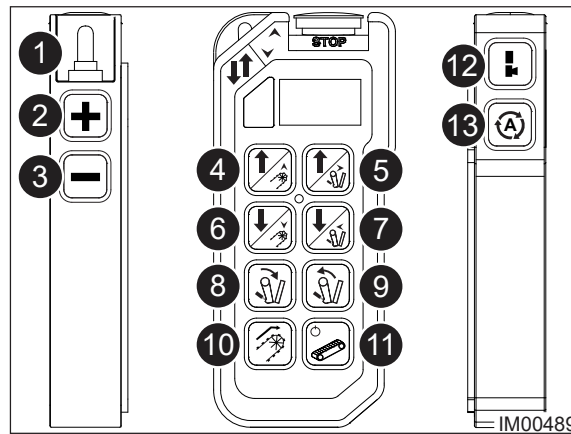

Fig: 6.8 - Radio Remote Handset
4. Familiarise with the operation of the radio remote handset (Fig: 6.8), direction of travel, and safe tracking instructions prior to attempting to maneuver this machine.
8. On the radio remote handset place the Toggle Switch (Item 1, Fig: 6.8) to the Left /Tracking position.
9. Turn on the radio remote control by pressing the Power On button on the side of the handset (Item 12, Fig: 6.8).
10. Press the Tracks Enable button (Item 11, Fig: 6.8).
11. The engine RPM can be increased using Button 2 and decreased using Button 3 (Fig: 6.8).
12. Pressing the push buttons on the radio remote handset will make the machine move (Buttons 4-7, Fig: 6.8). Refer to "Radio Remote Handset - Direction Of Travel" on page 6-13 for the machine directions.
- Press the Crawler Tracks Disable Button (Item 11, Fig: 6.8)
- Push the Power Off button (Item 12, Fig: 6.8) on the remote handset.